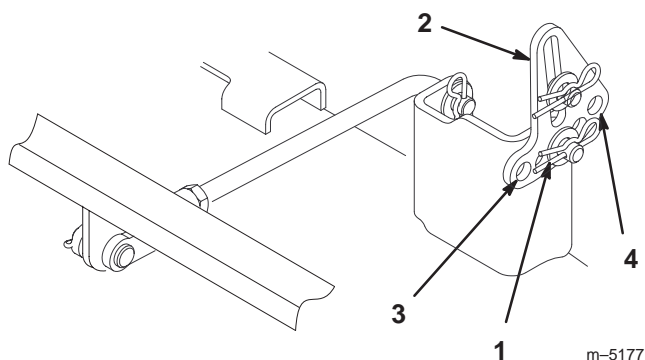

Figure 40
5. Remove the hairpin cotter and washer from the leveling bracket (Fig. 40). To level the blade(s), reposition the leveling bracket(s) in a different hole and install the washer and hairpin cotter. (Fig. 40). A front hole lowers the blade height and a rear hole raises its height. Adjust both sides as required.